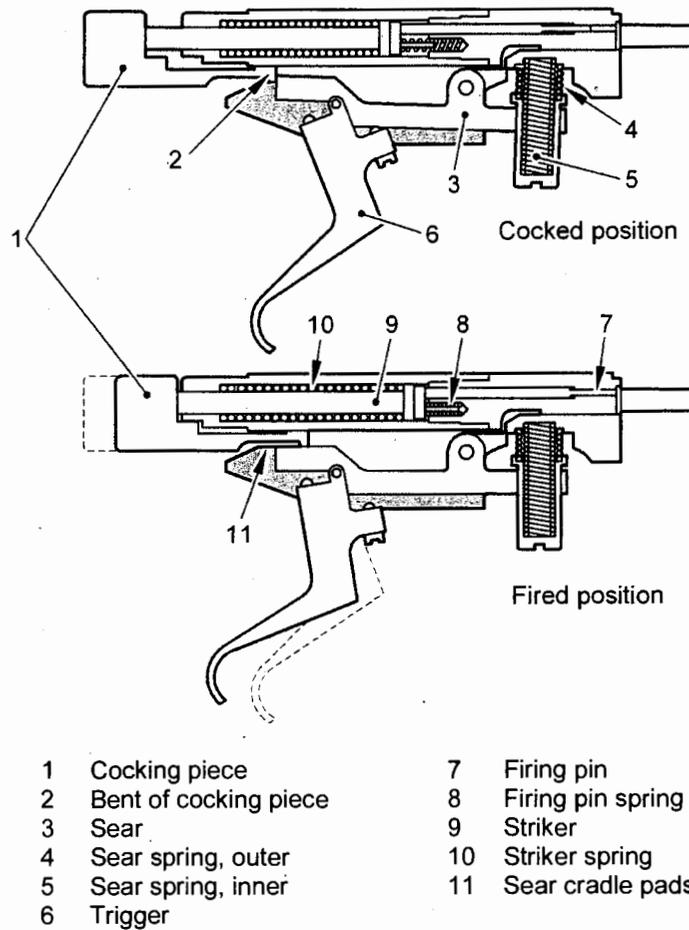

Fig 9 Sear release
15 Fig 9 refers. The pressure exerted by the compressed sear springs (4 and 5), transferred via the sear (3) and trigger (6), combined with the direct pressure on the trigger, produces an upward thrust through the sear cradle pads (11) on to the base of the sear on the bent of the cocking piece (1). This upward thrust counterbalances the downward drag of the bent of the sear on the bent of the cocking piece (2) and prevents any axial movement of the bolt. When the sear is released, the striker spring (10) carries forward the cocking piece and striker (1 and 9) to drive the firing pin (7) forward on to the rim of the cartridge, compressing the firing pin spring (8) in doing so.
16 Fig 9 refers. When, after firing, the bolt lever is raised, the striker (9) and cocking piece (1) are withdrawn by the action of the stud on the cocking piece in the cam slot of the bolt. The withdrawal of the striker allows the firing pin spring (8) to re-assert itself and withdraw the firing pin.